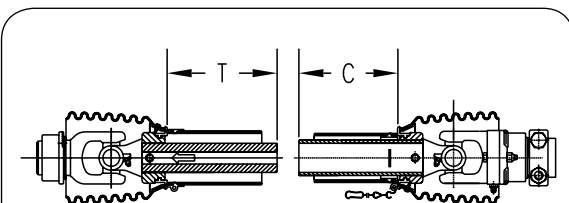

Fig. 4-37
2. Pull apart PTO telescoping shaft ends and measure lengths "T" & "C" (Figure 4-37)